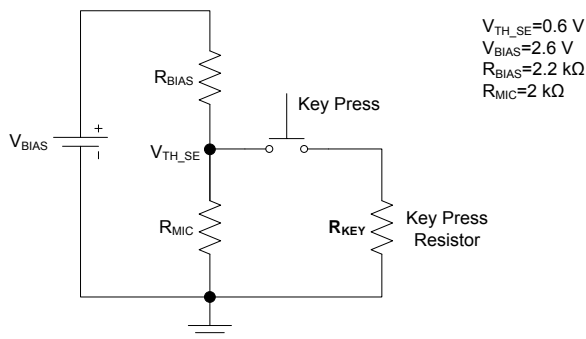

Figure 6. Example Key-Press Resistor Calculations and Values
The headset key-press comparator threshold is a function of the MIC bias voltage, MIC bias resistor, and the MIC impedance. All of these variables must be considered when calculating the key-press resistor value. Figure 6 is an example of how to calculate the key-press resistor value.
- Refer to Figure 6 and R_{KEY} calculation.